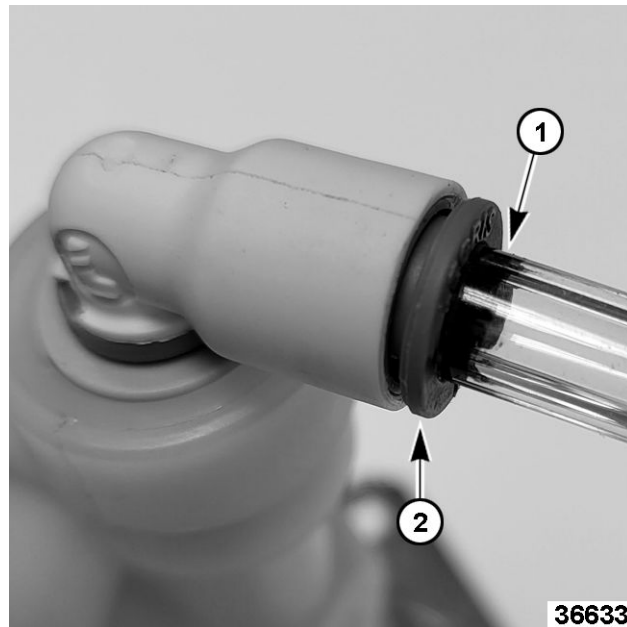
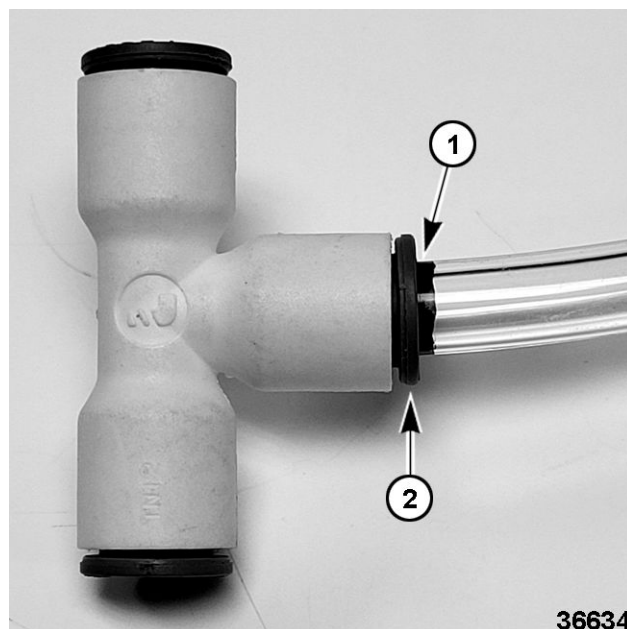

Fig. 89
Fig. 90
1. Connect marked end of supply tubing to push-to-connect solenoid (Fig. 89) and tee (Fig. 90) fittings.
NOTE: When fully inserted into the solenoid and tee fittings, tube marking (1, Fig. 89 & Fig. 90) is visible and aligns with the fitting's release ring (2, Fig. 89 & Fig. 90).